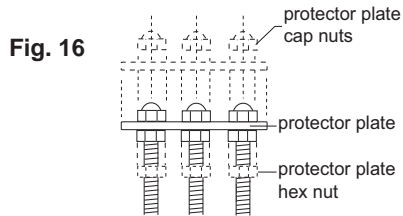

Fig. 16
- A. Remove the cap nuts, protector plate and protector plate hex nuts. (Fig. 16)